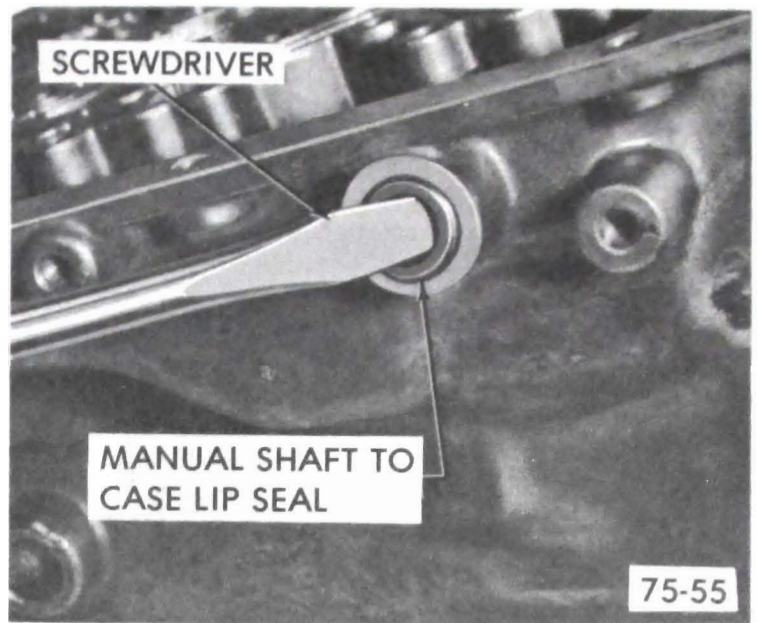

Figure 75-85
5. Remove manual shaft to case lip seal, if necessary. See Figure 75-85.